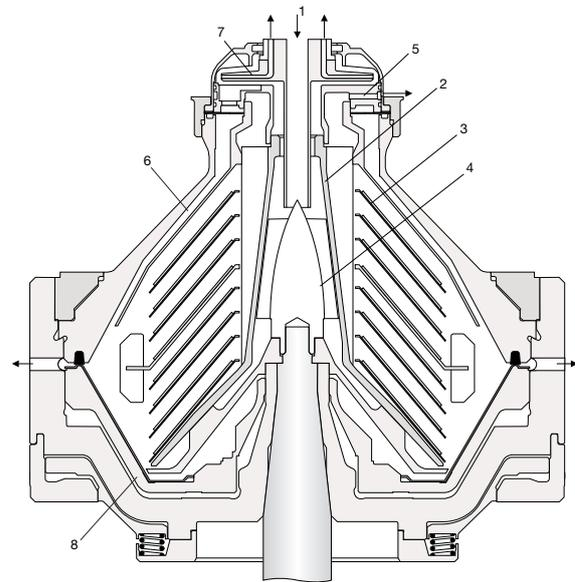

Fig. 2 Typical bowl drawing for a solids-ejecting centrifuge. Drawing details do not necessarily correspond to the centrifuge described.
Separation takes place inside a rotating bowl. The feed is introduced to the rotating centrifuge bowl (fig 2) from the top via a stationary inlet pipe (1), and is accelerated in the distributor (2), before entering the disc stack (3). The distributor is designed especially to ensure smooth acceleration of the feed liquid (4). The separation of liquid-liquid-solids takes place between the discs, with the oil phase moving through the disc stack to the centre and is discharged through pipes (5) and sprayed out into the collecting frame. The water and solids separated from the oil moves out to the periphery, the water is led via channels in the top disc (6) to the paring chamber, where it is pumped out of the rotor with means of a built-in paring disc (7). The solids are collected in the periphery, from where it is discharged intermittently via the centrifuge cyclone. The solids discharge is achieved by a hydraulic system which at preset suitable intervals forces the sliding bowl bottom (8) to drop down and thus opening the solids ports at the bowl periphery.